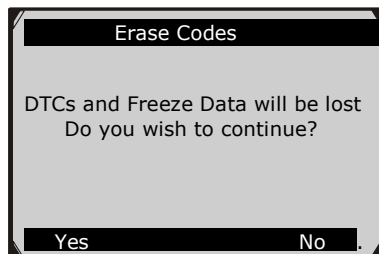

Figure 6.7
- If you press the function button corresponding to **Yes** or the **OK** button, a warning message will come up asking for your confirmation. (Figure 6.7)